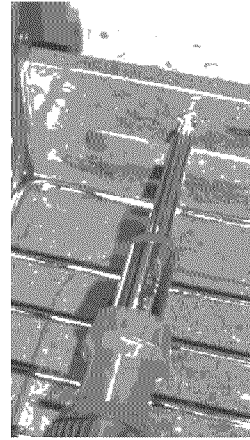

Fig. 1
2. Pull the drawer away from the oven. Using a phillips-head screwdriver remove the two drawer screws from the insides of the front oven drawer compartment-*Fig. 1*.